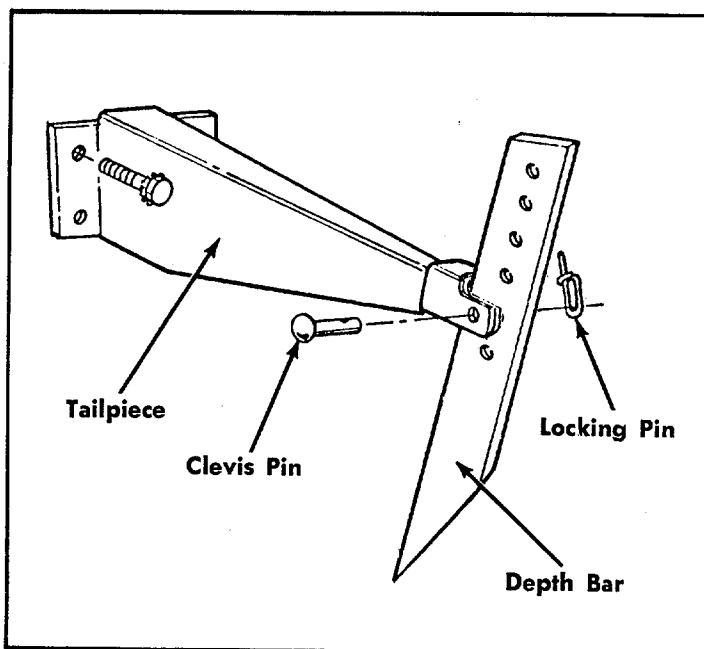

FIGURE 7. DEPTH BAR
10. The depth bar acts as a brake for the tiller and controls the tilling depth and ground speed. By lowering the setting of the depth bar, the forward speed of the tiller is reduced and the tilling depth of the tines is increased. Raising the settings of the depth bar increases the forward speed and reduces the working depth. See figure 7.